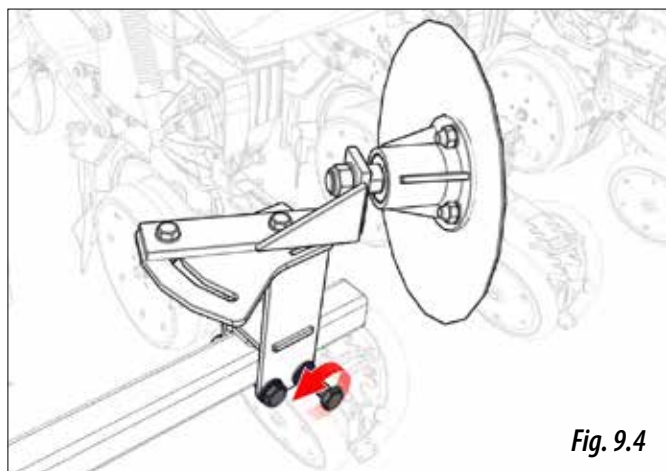
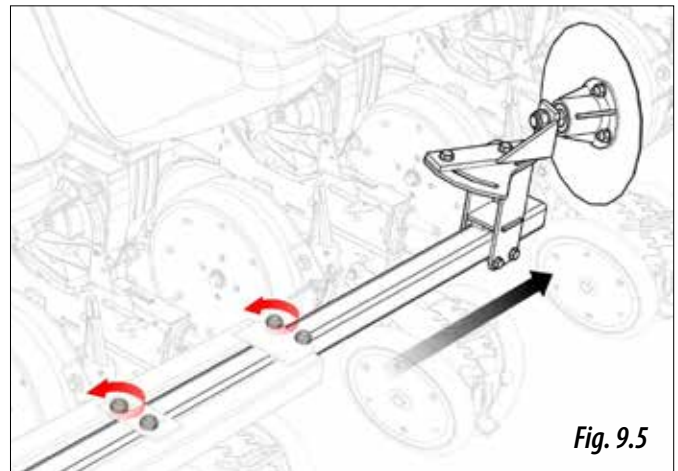

Fig. 9.4
Fig. 9.5
- 2- To place the marker disc to the previously calculated distance B, loosen the disc's screws (Fig. 9.4). If this is not enough, loosen the screws in the extendable tube (Fig. 9.5).